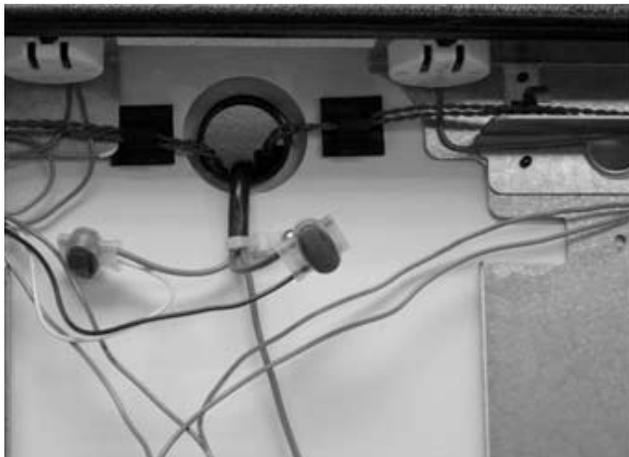
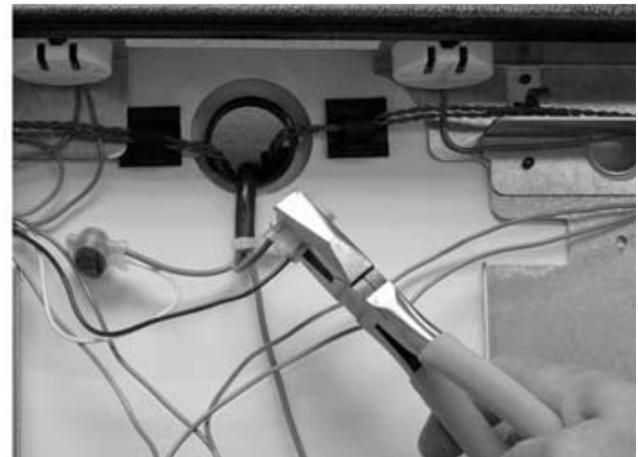

Figure 82.
Figure 83.
- E. Pull out another Scotchlok blue connector. Press the black-wire and the harness-brown wire into the connector (see Figure 82) Crimp with pliers as shown Figure 83.